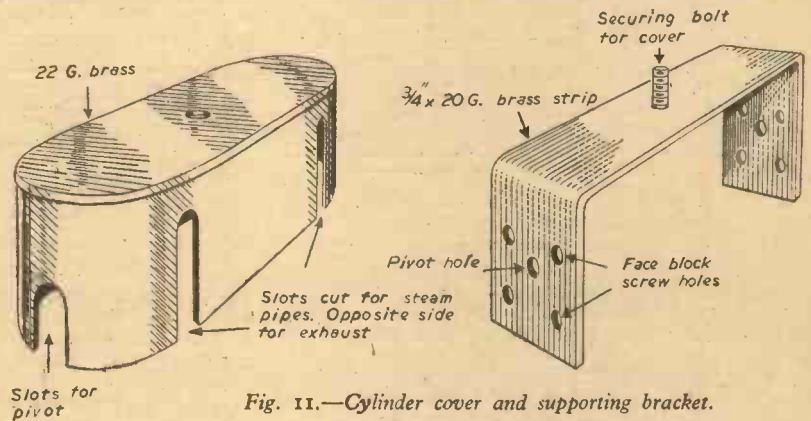
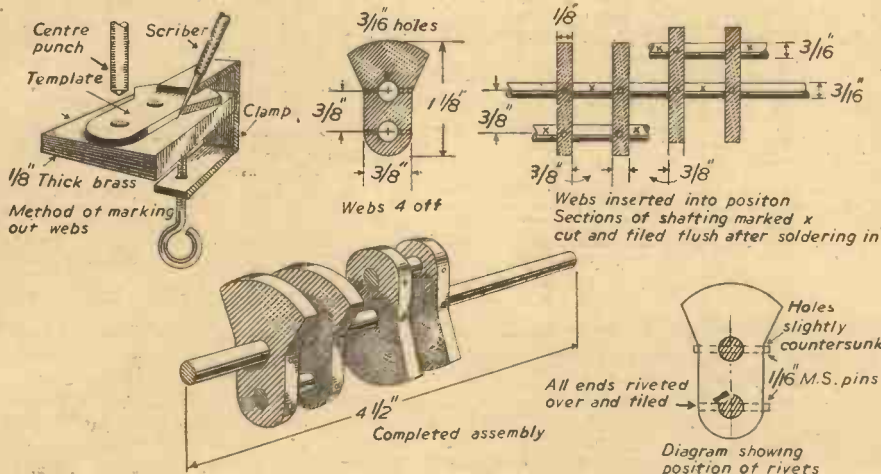

Fig. 11.—Cylinder cover and supporting bracket.
Fig. 8.—Details of the built-up crankshaft.
**T**HOUGH the process was straightforward, the construction of the crankshaft was not easy. It will be appreciated that there will be trouble if this item is a fraction out of alignment. With a prefabricated shaft, this trouble usually arises if the shaft holes are not absolutely parallel with each other, or if they are oversize, allowing too much play on the sections of shafting when placed in position. One way of overcoming this is to drill all webs together, tracing out the hole positions beforehand; but four webs together constitute a considerable thickness—rather too much for drilling by hand—so the job was tackled as follows: An accurate steel template was made of the web size, holes included (Fig. 8). Then the four brass webs were cut and drilled very carefully to this. Lengths of steel shafting were then prepared and pressed through the web holes. Carefully aligning the webs into position, they were sweated with soft solder. Then holes were drilled right through the webs and shafting, and pin rivets driven through. Finally, the sections of shafting marked X were cut away, the rivet ends filed flush, and the whole cleaned up and given a good polish.
the engine, and test for alignment. At the same time the overhanging support bracket was fitted. This is a strip of brass,  $\frac{3}{4}$  in. wide x  $\frac{1}{32}$  in., shaped as in Fig. 11. It is secured in position by the same screws that also support the mounting blocks (see Fig. 1). This bracket assists in holding the mounting standards firmly.
This is optional, but if required the general arrangement can be seen in Fig. 11. The function of this has already been explained; a step further would be to enclose the whole engine. I have not yet done this myself, but it would be an advantage to conserve heat. The cover would of necessity have to be of very light material. So much for the engine details. The installation of the engine in conjunction with the boiler is shown in Figs. 8 and 9 of the March, 1953, issue of PRACTICAL MECHANICS. Finally, I would point out that if the builder chooses to fit the driving "dog," the propeller shaft will have to be a little shorter. Watch this point, therefore, when fitting. As an alternative, bring the engine slightly forward on the bed plate.